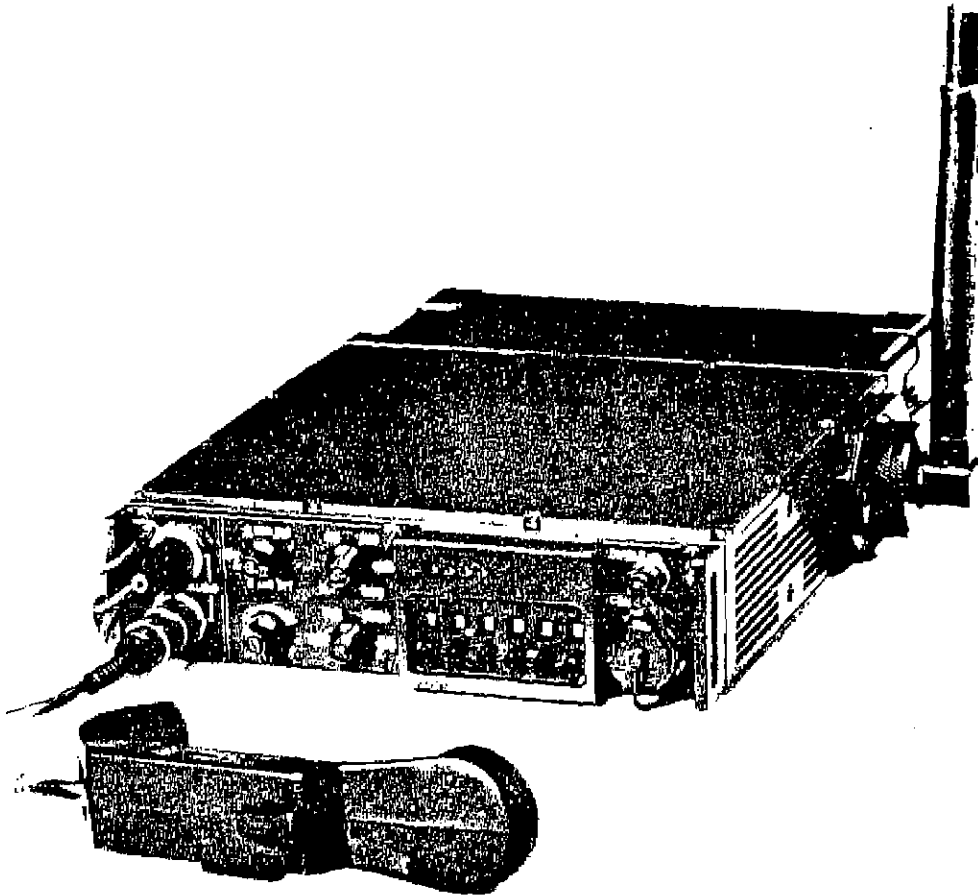

Figure 1-1. Radio Set PRC-174, basic configuration
a. Radio Set PRC-174 (Figure 1-1) provides stable two-way communication at short and medium range on any one of 280,000 frequencies spaced at 100-Hz intervals in the 2-MHz to 30-MHz high frequency (HF) band. The radio set is self-contained for operation as a man-pack, vehicular or fixed radio station. .
b. The radio set provides voice, narrow-band data and narrow-band or wideband continuous wave telegraph (NCW, WCW) communications. Both single-sideband (SSB) and amplitude modulation (AM) are available for voice and data operation. SSB is used for Cw operation. In SSB either the upper or the lower sideband (USB, LSB) may be utilized. (See Table 1-1.)